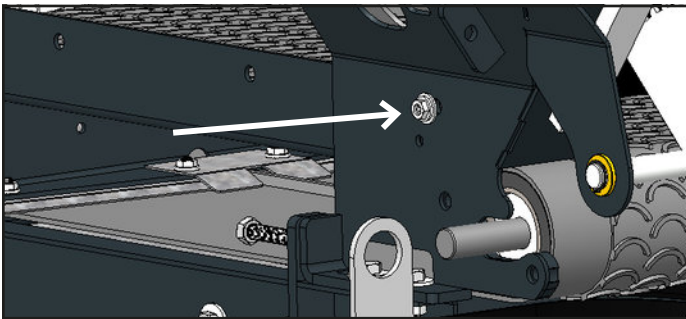

Figure 13.5
- Remove the bolts from the plate to the feed mechanism support. (Fig 13.5)